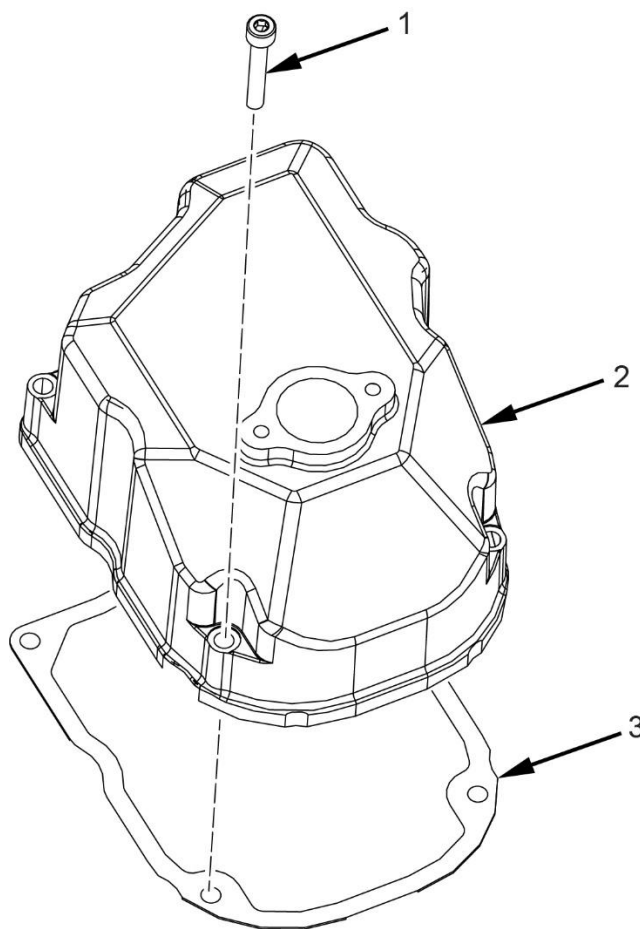

Figure 40. Cylinder Head Cover Assembly
1. Remove all four-cylinder head cover bolts (Figure 40, Item 1).
2. Remove the cylinder head cover (Figure 40, Item 2) and gasket (Figure 40, Item 3).
2. Install gasket (Figure 40, Item 3) onto cylinder head.
3. Install cylinder head cover (Figure 40, Item 2) and torque all four bolts (Figure 40, Item 1) to 20 lb-ft.